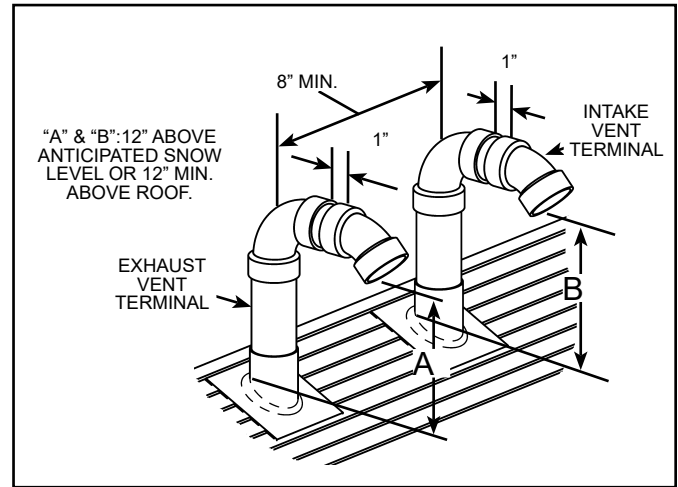

Figure 23.
**Important:** When terminating the vents through a roof, the following specifications pertaining to terminal location must be followed (see Figure 23).